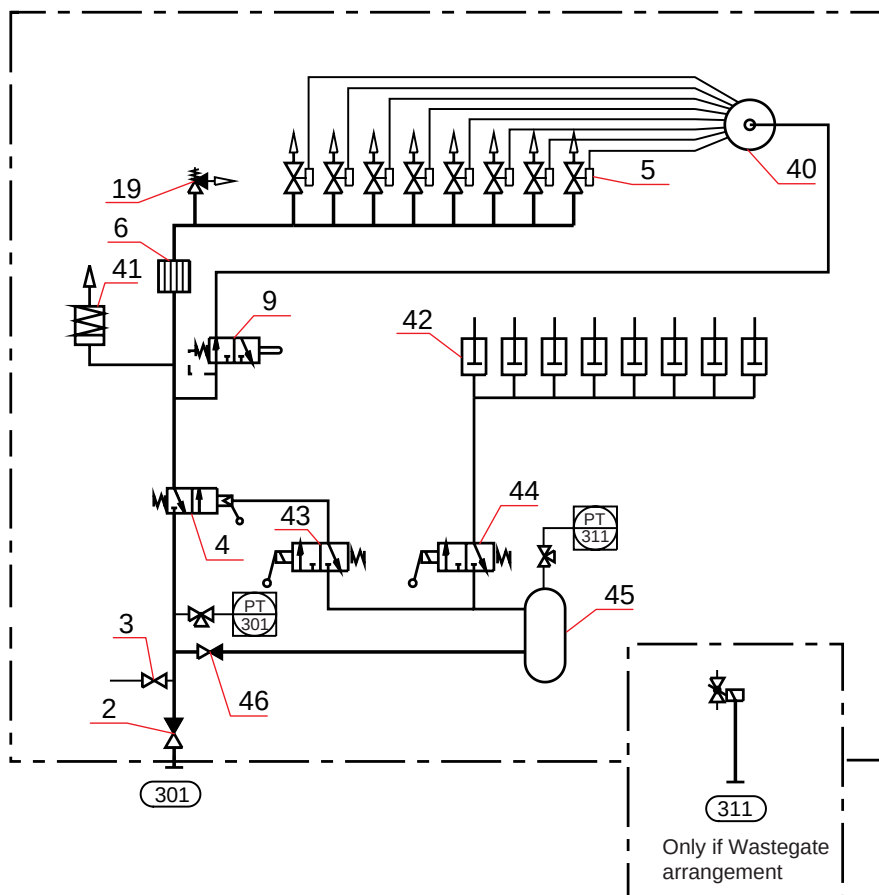
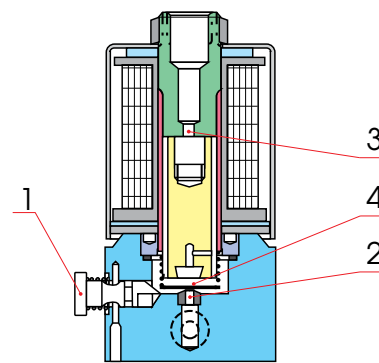

Fig 21-4
Fig 21-5
The main starting valve (4), which is described in detail in section 21.2, is actuated by the solenoid valve (43) at remote start. Fig 21-5 shows the solenoid valve. The valve is equipped with a push button and can be energized manually.
**Solenoid valve** (43 and 44, Fig 21-4). In case of disturbance in the electric function of the valve, test the valve by pushing the button (1), see Fig 21-5. Should there be a mechanical malfunction, open the valve using a special tool.